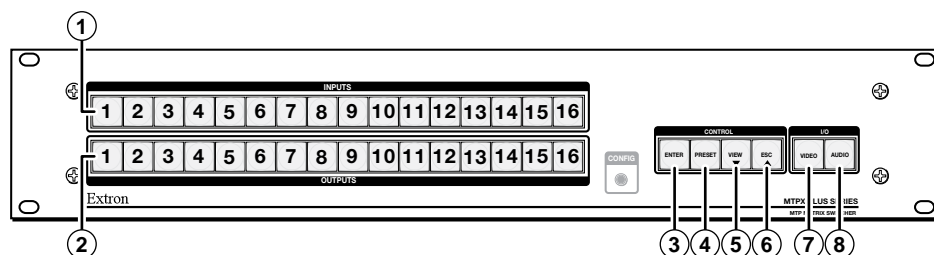
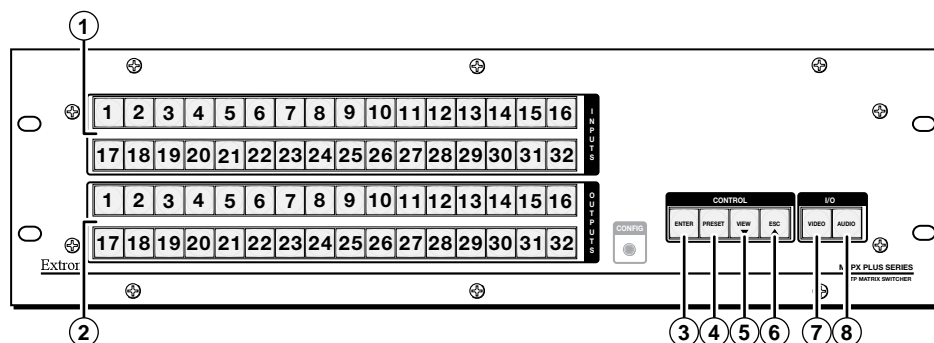

Figure 3-1 — Front panel, MTPX Plus 1616
Figure 3-2 — Front panel, MTPX Plus 3232
The front panel controls (figure 3-1 and figure 3-2) are grouped into two sets. The input and output buttons, ① and ②, are grouped on the left side of the control panel. The control buttons and video/audio (I/O) selection buttons, ③ and ⑧, are grouped on the right side of the panel.
NOTE While the number of inputs and outputs varies depending on the size of the matrix, there are only two front panel arrangements: 16 input buttons by 16 output buttons (figure 3-1) and 32 by 32 (figure 3-2).